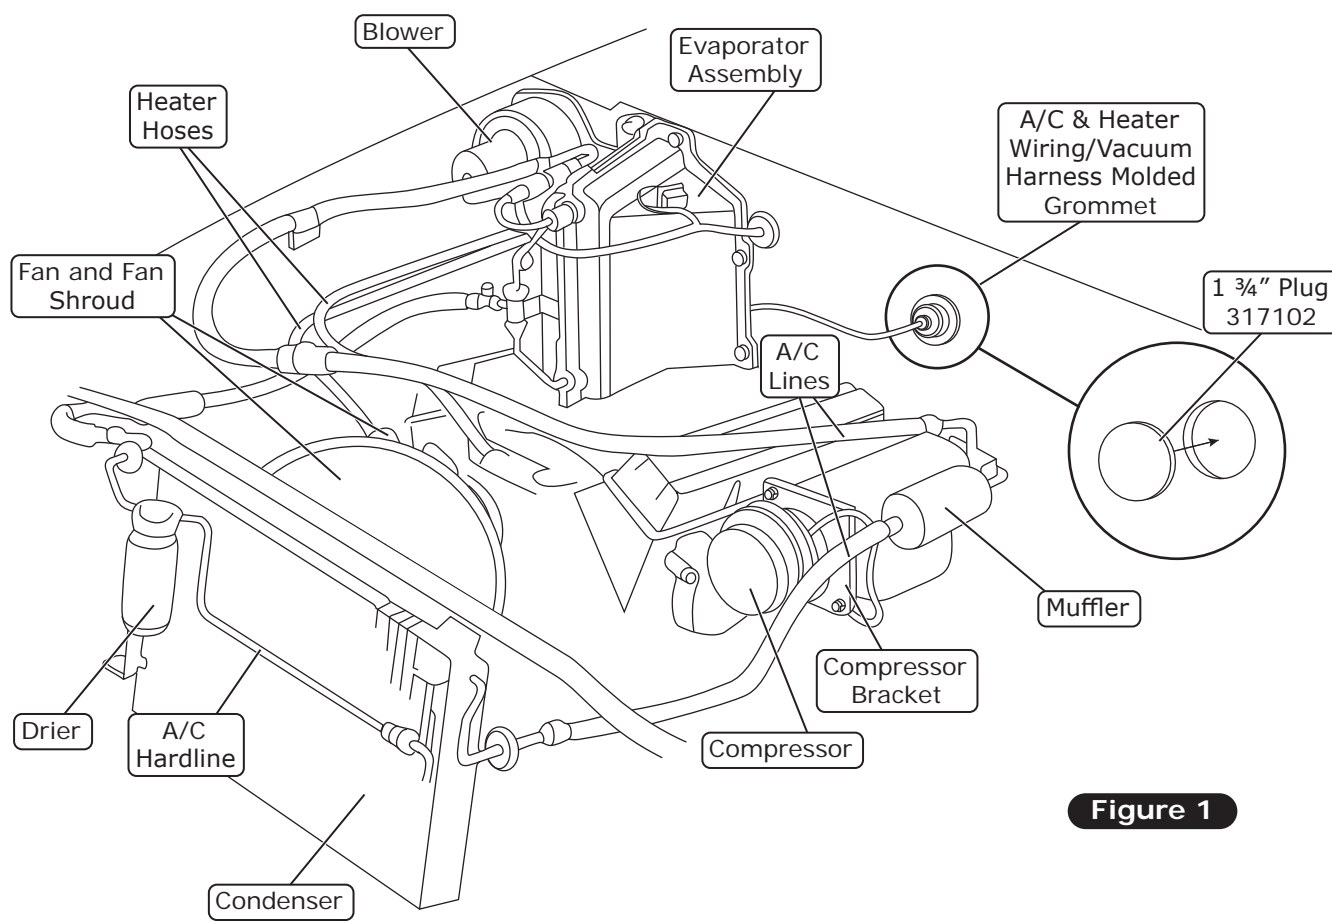

Figure 1
5. Remove the condenser and drier (discard) (See Figure 1, below).
6. Remove the A/C lines from the compressor to the evaporator (discard) (See Figure 1, below).
7. Remove the compressor and bracket (discard) (See Figure 1, below).
9. Remove the heater hoses, A/C hoses, hardlines and muffler (discard) (See Figure 1, below).
10. Remove the A/C and heater wiring/vacuum harness molded grommet (See Figure 1, below).
11. Install the supplied 1 $\frac{3}{4}$ " plug in the firewall as shown in Figure 1, below.